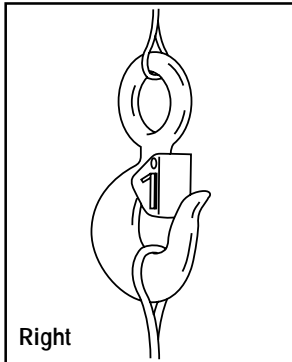
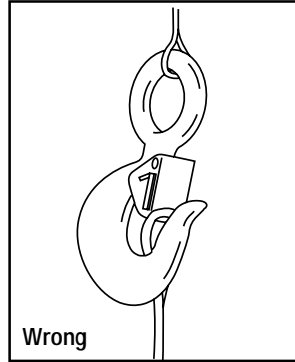

Figure 3
Figure 4
- Always make sure the hook supports the load. (See Figure 3.) The latch must never support the load (See Figure 4).